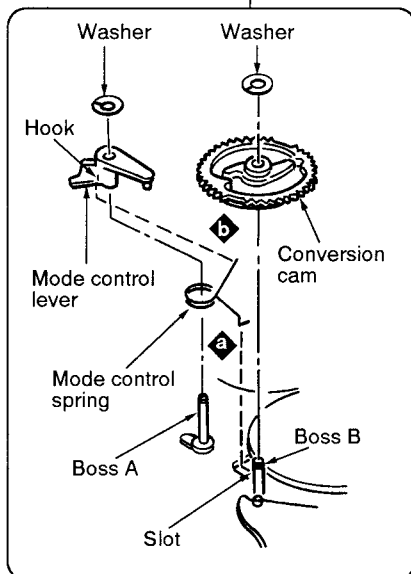

Figure 1
Step 2 Install the mode control spring to the boss A, and then align the portion **a** of spring with the slot. (Refer to figure 1)
Step 3 Install the conversion cam to the boss B, and then install the washer. (Refer to figure 1)
Step 4 Install the mode control lever to the boss A. (Refer to figure 1)
Align the portion **b** of mode control spring with the hook of mode control lever. (Refer to figure 1)